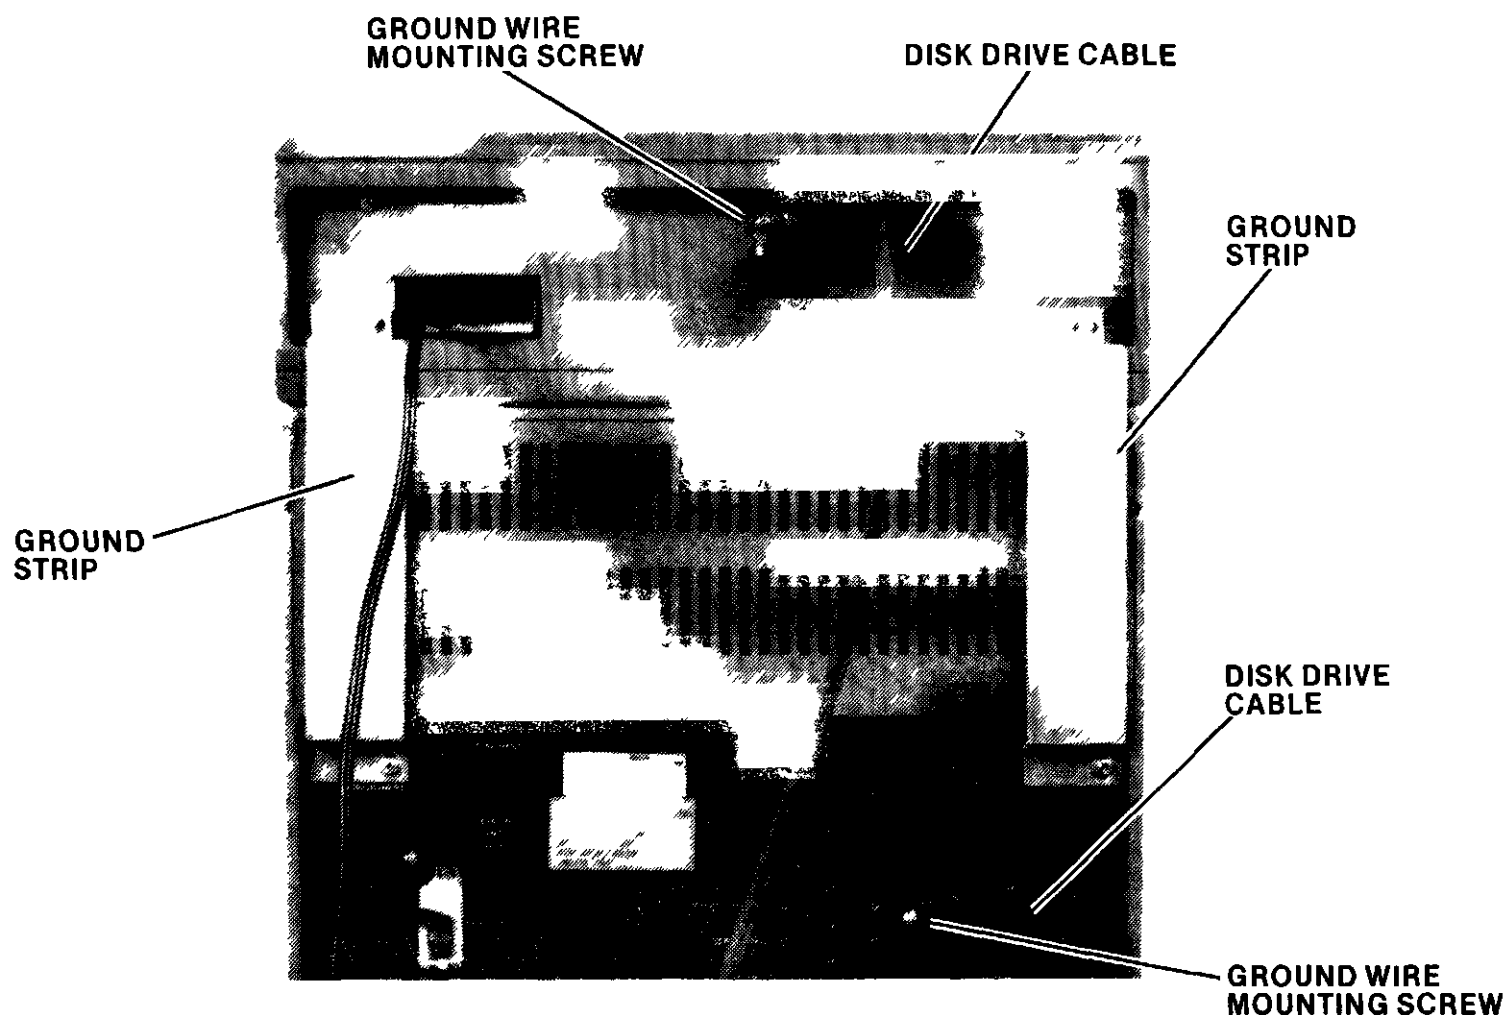

Figure 2-10. Dual Double Density Diskette Drive Installation
15. Unpack disk drive and place on top of Model 23X chassis. (Refer to figure 2-10.) Fasten disk drive cable to the connector on rear panel of disk drive chassis and connect ground wire to adjacent screw. Fasten other end of disk drive cable to connector J8 on Model 23X rear chassis panel. Connect ground wire to screw adjacent to connector J8. Attach the two aluminum ground strips between rear panels of disk drive and Model 23X.